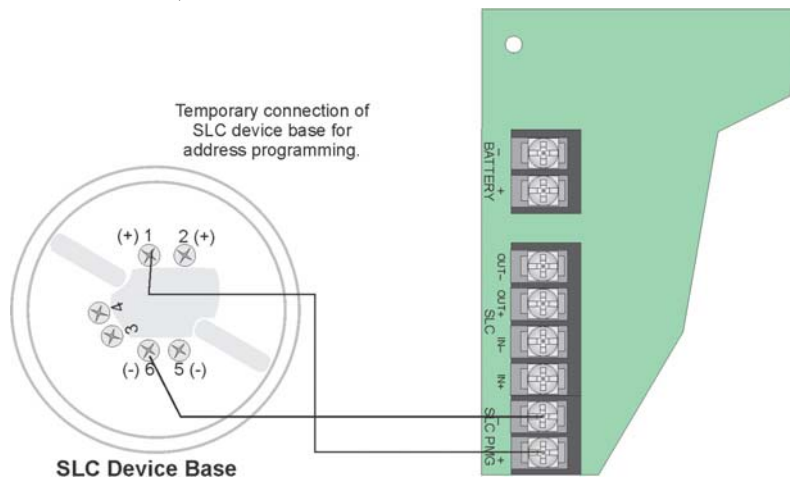

Figure 7-7: Temporary Connection of Detector Base to Panel for Addressing
- Connect a detector base temporarily to the programming terminals as shown in Figure 7-7. (You can use the same base for each detector.)